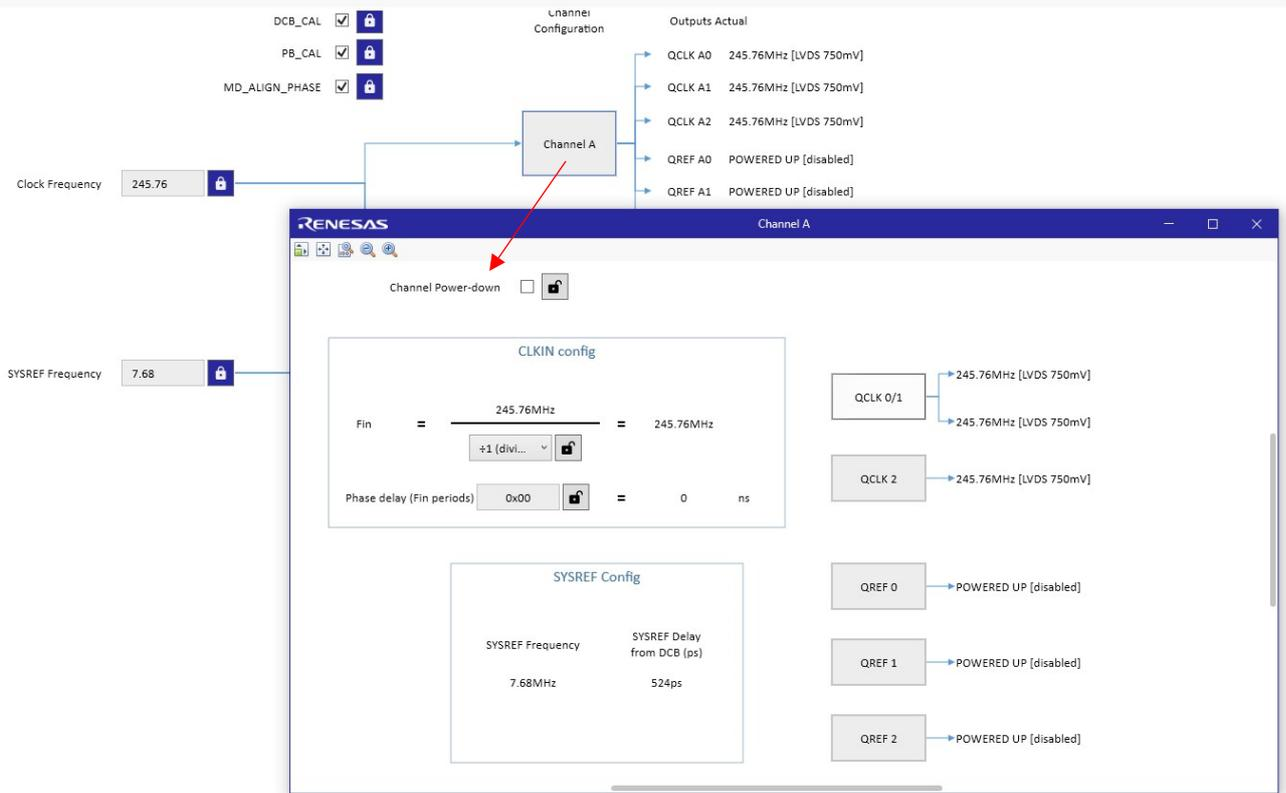

Figure 19. Output Channel Frequency and Phase Delay Setting
- Set the clock output QCLKx output frequency and phase delay (see Figure 19 for an example). INIT_CLK is required to activate QCLKx divider and Phase Delay.